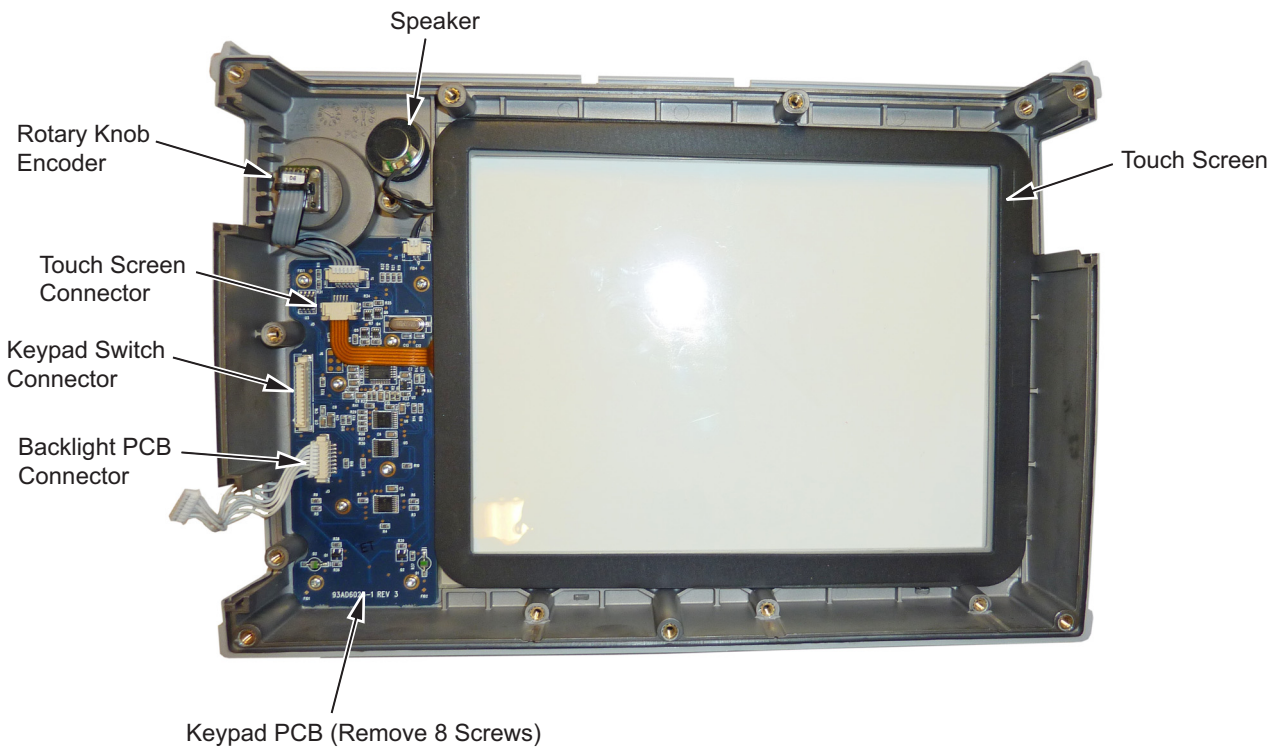

Figure 7-15. Front Panel Keypad Bezel
4. Remove the 8 screws and the cables attached to the keypad PCB allowing removal of the keypad PCB (Figure 7-15). The rubber keypad is located under the keypad PCB.